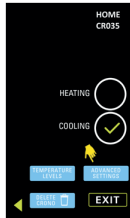
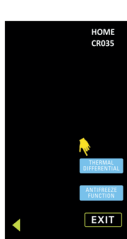

Fig.49
Fig.50
9.6.1.2 Press  Fig.49, and  Fig. 50
9.6.1.4 Confirm by pressing  otherwise press  to go back to Fig.50
9.6.2.2 Press  Fig.49, and  ; Fig. 52